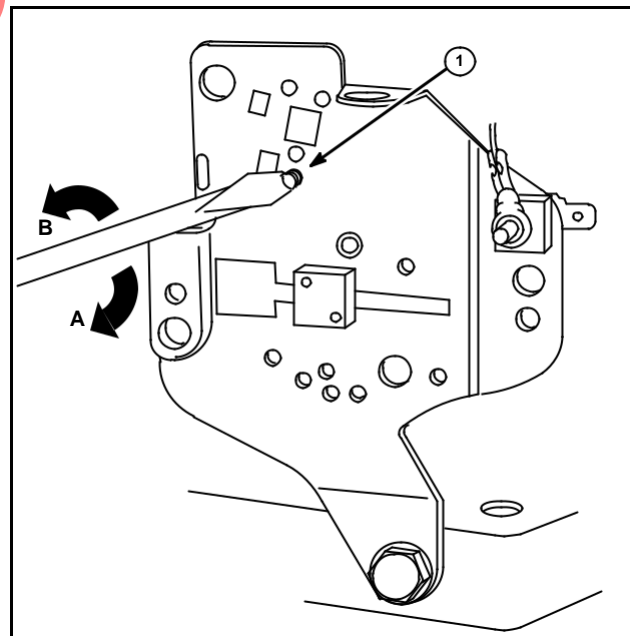

Fig. 31
Adjust Governed Idle Rack and Pinion Control Horizontal Crankshaft Models, Fig. 31
3. Hold throttle in closed position with finger, adjust idle speed screw (1) to 1550 RPM, ("A" to increase, "B" to decrease).
5. Set remote control to 1750 RPM. Turn screw in until it contacts remote control lever, Fig. 31.